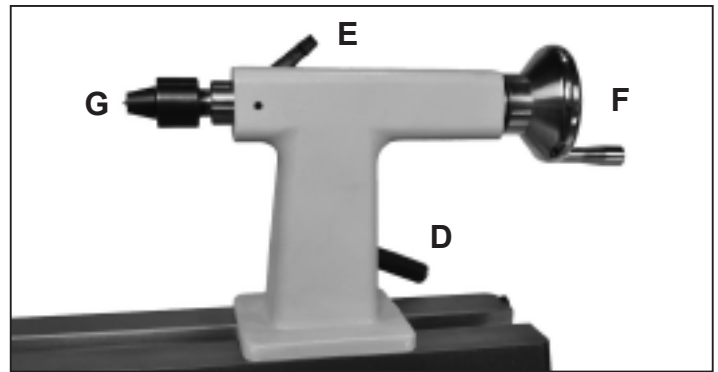

Fig.5.3
1. TAILSTOCK LOCK HANDLE: (FIG. 5.3, D) Locks the tailstock in position along the length of the lathe bed. Unlock the cam lever handle to position the tool rest to move the tailstock. Tighten handle when properly positioned. See page 12 for adjusting clamping pressure.
2. TAILSTOCK QUILL LOCK HANDLE: (E) Secures the tailstock quill in position. Unlock the handle to move the quill, with live center, forward or backwards. Tighten the locking handle when the quill is finally positioned.
3. TAILSTOCK QUILL HANDWHEEL: (F) The handwheel advances or retracts the quill 0 to 3-1/2". The tailstock quill lock handle (E) must be loose to move the quill.
4. TAILSTOCK LIVE CENTER: (G) Used for turning between centers. The Live Center (#20C) and the Quill (#6C) have MT-2 tapers. Remove the live center by retracting the quill until the center loosens, or use the knockout bar.